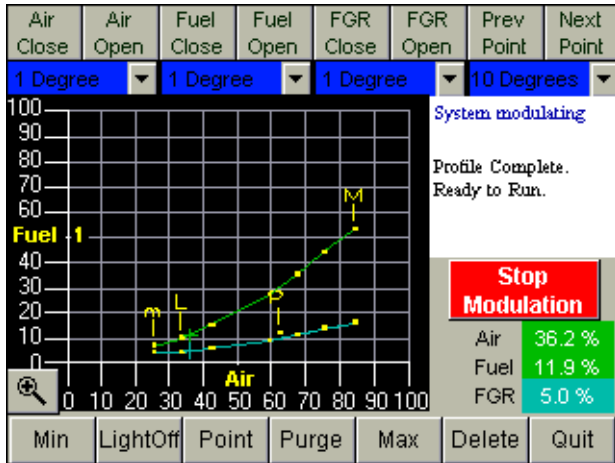

Fig. 37. Completed commissioning curve.
- Save Curve S7999B flash (Fig. 37 and 38). Control returns to Curve Commission screen.